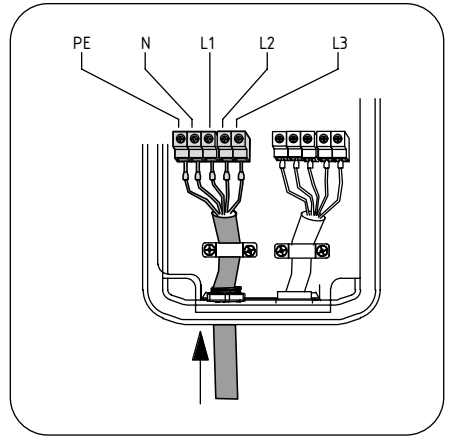

Figure 33
3. Connect the phase cables "L1", "L2", "L3", neutral "N" and ground "PE" (three-phase version, Figure 33) respectively into the corresponding terminals with the M5x10 screws. Note: the fixing force for the screws is 2.8Nm.